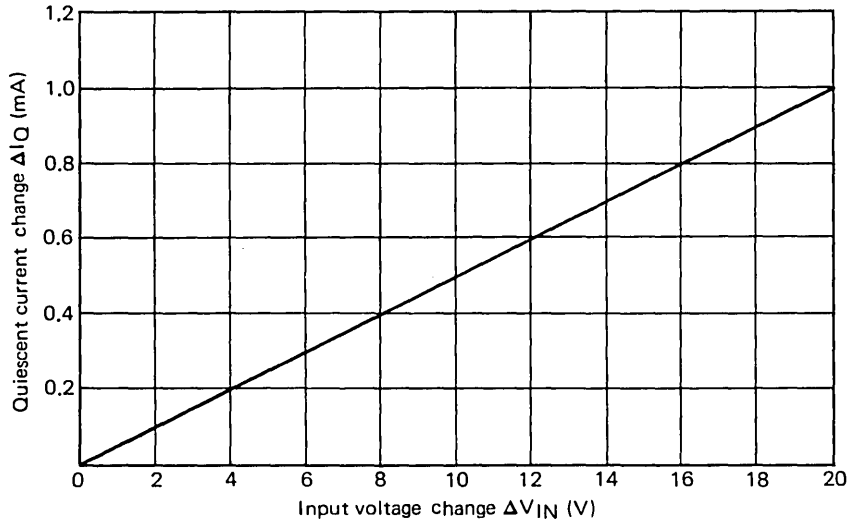

Fig. 14 ΔV_{IN} — ΔI_Q characteristic
I_Q changes by about 0.05 mA against the input voltage variation of about 1V. Fig.14 shows the characteristic curve of the circuit current variation (ΔI_Q) vs input ripple voltage (ΔV_{IN}). By re-writing the equation (9) with this variation, equation (10) is obtained.
(2-1) From Fig. 14, $I_Q = 0.25mA$ when $V_{IN} = 5V_{p-p}$